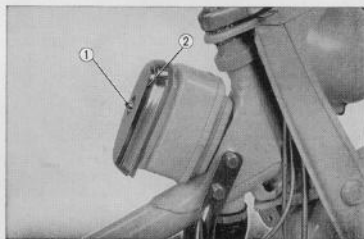

Fig. 4.70 Removing air cleaner (C 90, CT 90)
Unscrew the cap nut ①, remove the cover ② and pull out the cleaner element. (Fig. 4.70)